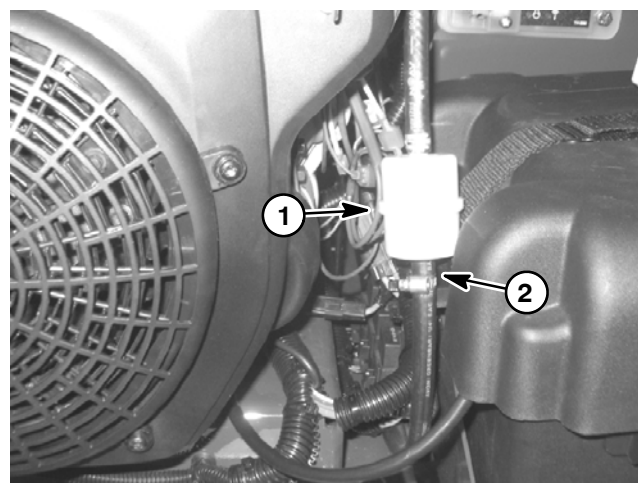

Figure 7
5. Loosen hose clamp that secures fuel hose to fuel filter inlet (Fig. 7). Remove fuel hose from fuel filter. Plug fuel hose to prevent leakage and contamination. Make sure to clean up any spilled fuel. Position disconnected fuel hose away from engine.
8. Remove four (4) flange head screws and flange nuts that secure engine to machine.
4. Install four (4) flange head screws up through the frame and engine mounting holes. Install flange nuts on screws. Do not fully tighten nuts at this time.
10. Remove plug installed in fuel hose during engine removal process. Connect fuel hose to the fuel filter inlet and secure with hose clamp (Fig. 7).